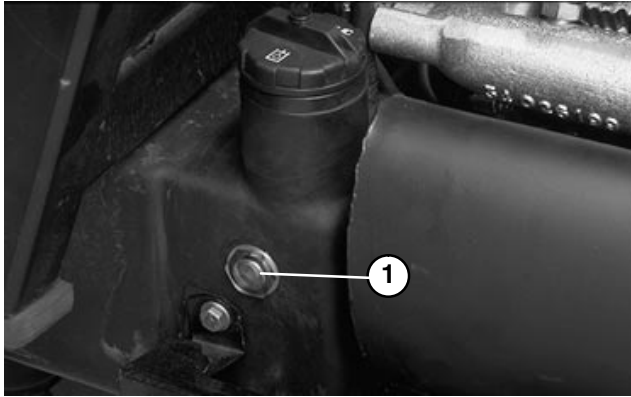

Figure 35
5. With wing decks raised, center deck down and oil warm, look into sight gauge (Fig. 35). If hydraulic oil is not visible, add enough oil to raise level to middle (maximum) of sight gauge. To prevent over filling, do not fill if oil is cold. DO NOT OVER FILL.